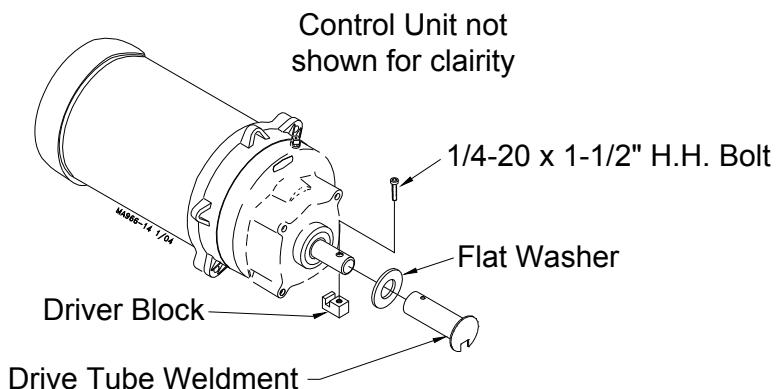

Figure 41. Auger Driver Components
5. Slide the drive tube and flat washer over the output shaft on the power unit, see **figure 41**.